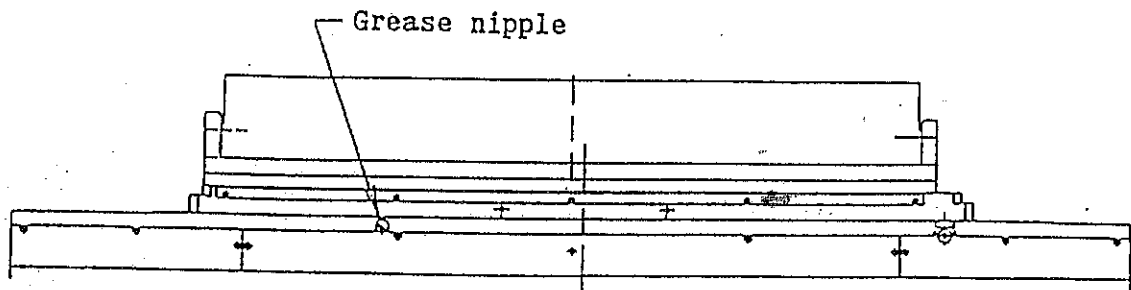
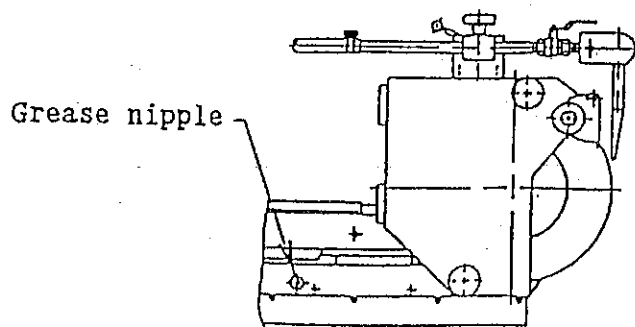

Fig. 5-2 Servicing the Table Nut
Fig. 5-3 Servicing the Wheel Spindle Nut
(1) Table drive x 1 point
▶ See Figs. 5-2 and 5-4.
(2) Wheel head drive x 1 point
▶ See Figs. 5-3 and 5-5.